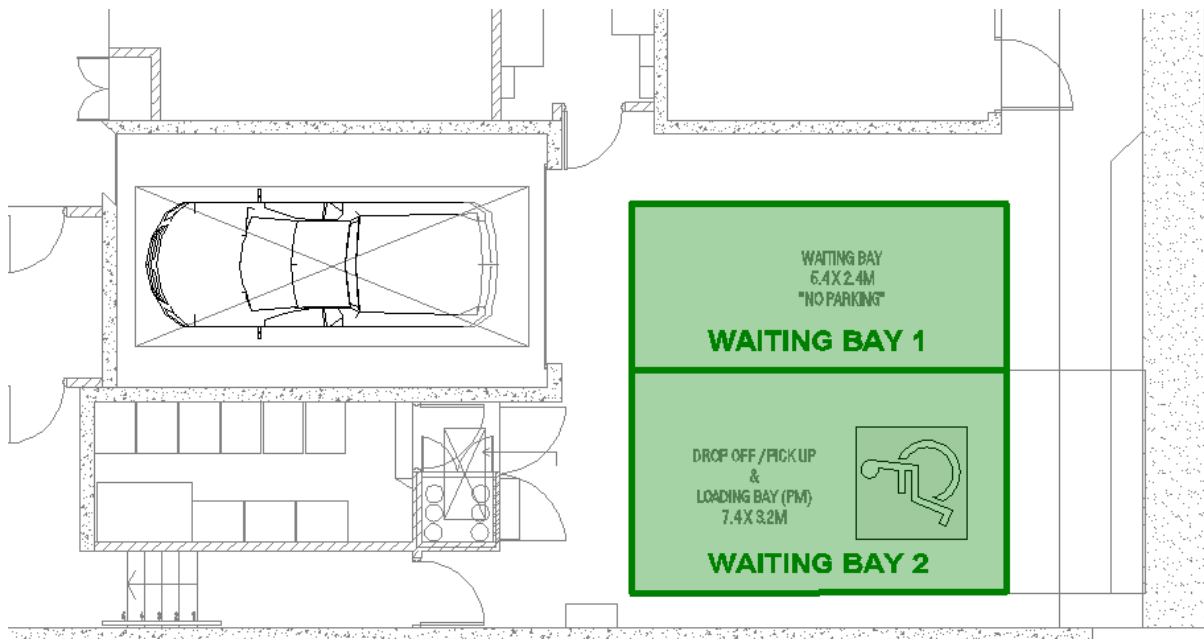

Figure 3: Dual Waiting Bays
- Two separate waiting bays for entry into the vehicle lift as shown in **Figure 3**;